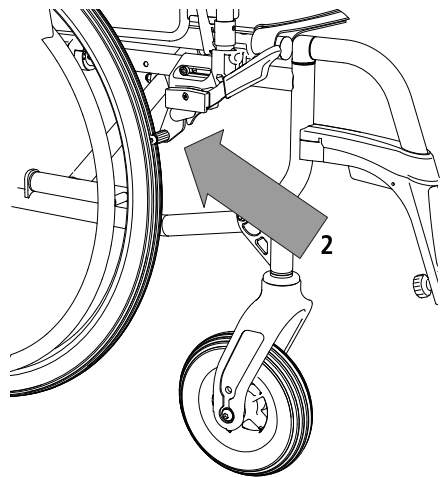

fig.25
2. Press the brake lever further forwards until you feel it engage (2, Fig. 25).